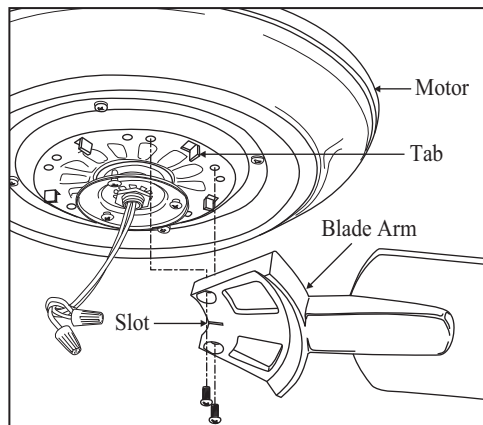

Figure 12
3. Fasten the blade assemblies to the motor housing by lining up the slots of the blade arms with the tabs on the motor housing, then tighten the two screws already installed in the blade arms (Figure 12).